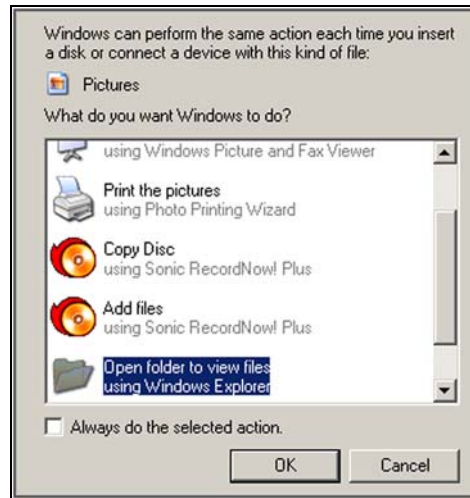

Figure 2-17 Sample “removable disk” dialog
6. If a “removable disk” dialog automatically opens on your PC, click **Cancel** (Figure 2-17).